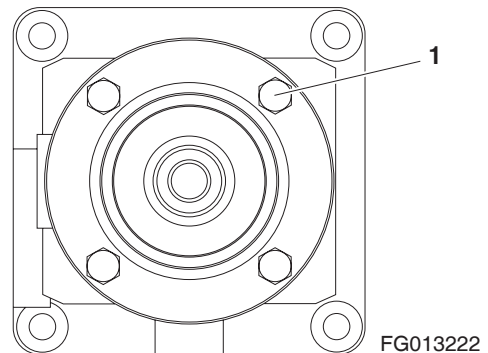

Figure 3
4. Use a 17mm spanner to loosen cover bolts (1, Figure 3) and remove the cover and O-rings (1AG100).